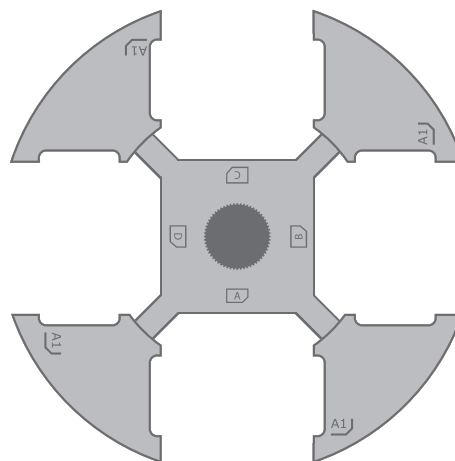

Figure 26. Ensure that the collection plates/racks are loaded correctly into the carousel. Note the location of the A1 position of the plate/rack.
17. Load 24-, 48-, or 96-well collection plate(s) or rack(s) onto the carousel as specified in the method; see the **Carousel Setup** in the **Prepare Run** view. Ensure to load them in the correct direction; see the location of the A1 position of the plate/rack in Figure 26.